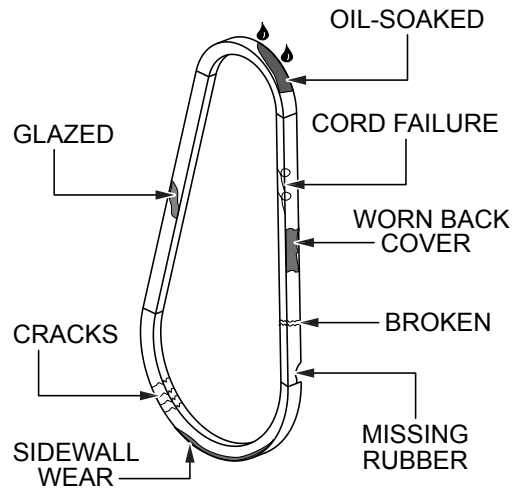

Figure 14. V-Belt Inspection
1. Inspect the V-belt (Figure 14) to determine if it is frayed, peeling, full of tiny cracks, has pieces of rubber missing, or is otherwise damaged.